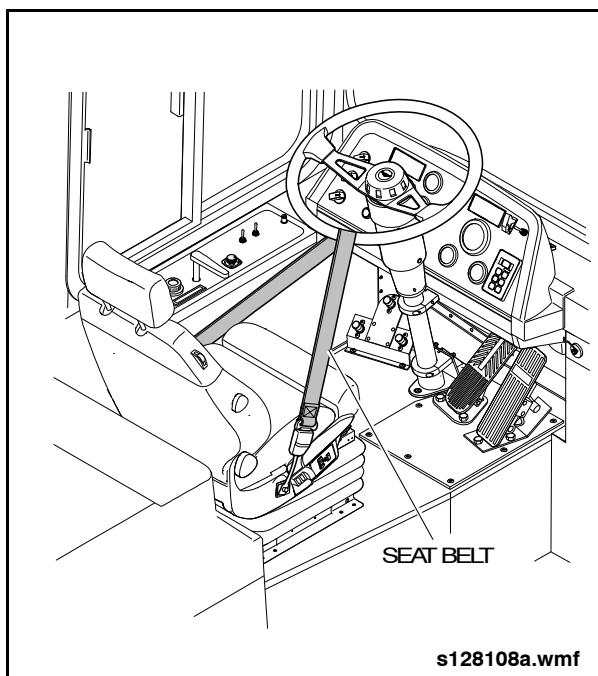

Fig. GI-25: Securing Steering System
- b. Secure the steering system in this position by looping the driver's seat belt around the lower portion of the steering wheel and clipping it into the seat belt buckle. See "Fig. GI-25: Securing Steering System" on page 51.